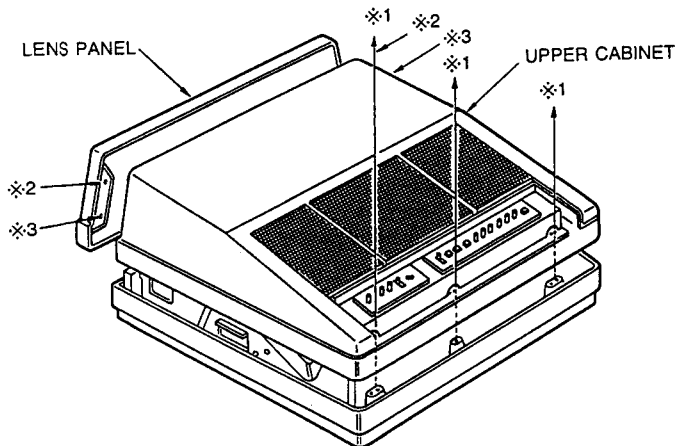

Fig. 39
- (1) Remove the three screws designated "※1" on Fig. 39 and remove the UPPER CABINET.
(8) Refit the LENS PANEL and tighten its four screws "※ 2" and "※ 3" [Fig. 39]
(9) After ensuring that a proper picture is displayed, replace the UPPER CABINET and tighten the three screws "※ 1" [Fig. 39]